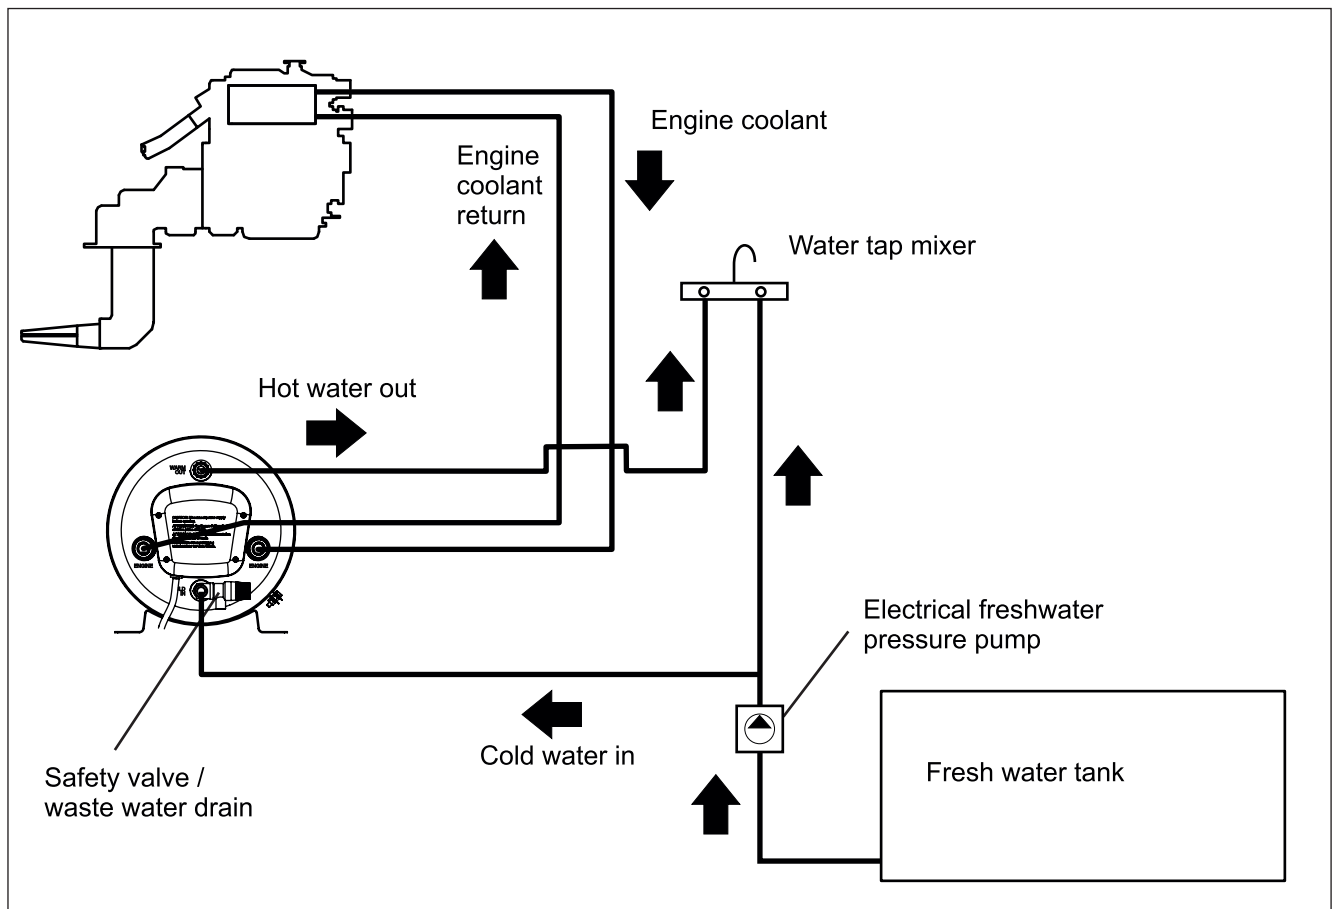

Fig. 1
The water heater can be mounted anywhere on the vessel as long as the connections to the engine heat exchanger are below the engine header tank (Fig. 1). It is best to keep the length of the heat exchanger hoses short to keep flow resistance and heat loss to a minimum. In many installations the tank heat exchanger is simply connected in series with the engine coolant circuit. In some installations it is connected in parallel with a flow restrictor/diverter.
4.3 Connections to engine (see connection diagram, fig. 1):
4.4 Fresh water connections (see connection diagram, fig. 1):